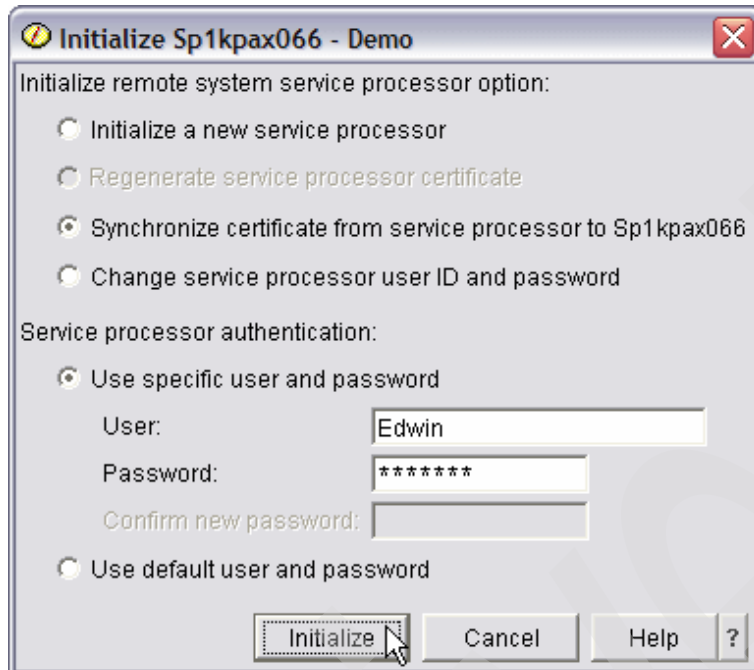

Figure 6-25 Synchronize option on Initialize window
3. The Initialize window opens (Figure 6-25 on page 174), select **Synchronize certificate from service processor to <Service processor object name>**.